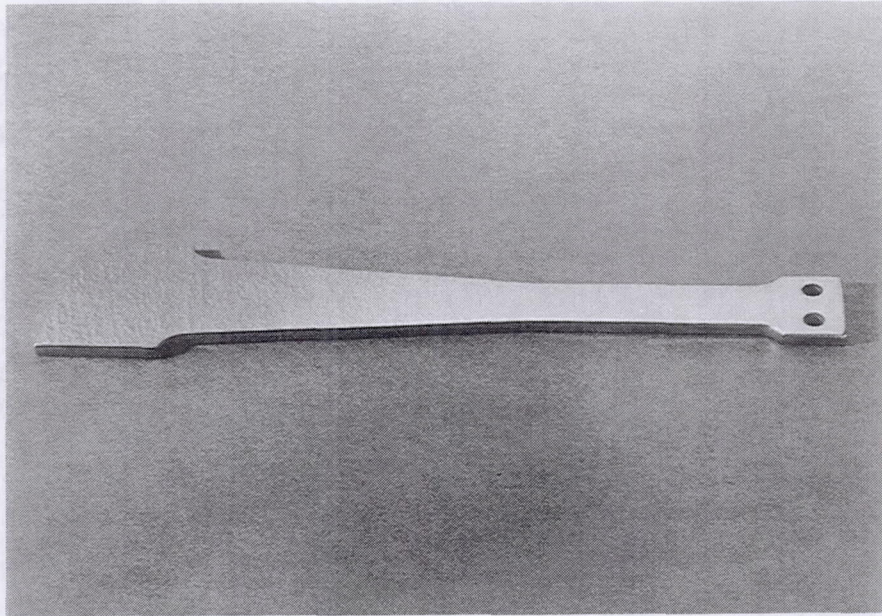

FIGURE 1. Constant stress bar ready for gage installation.
- Figure 1. Constant stress bar ready for gage installation.